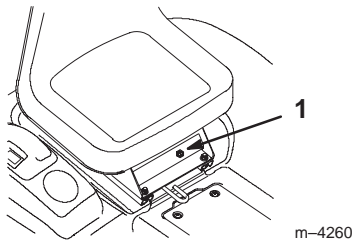

Figure 15
2. Insert the KeyChoice key into the KeyChoice switch (Fig. 15).